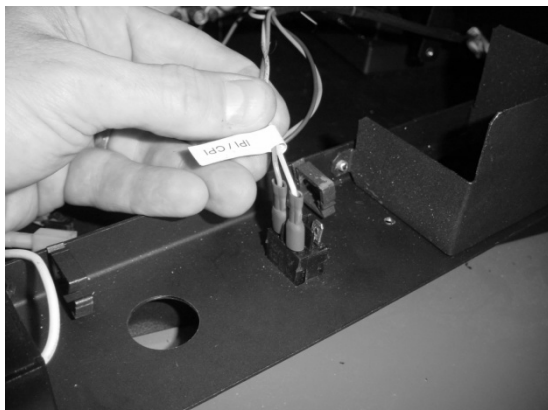
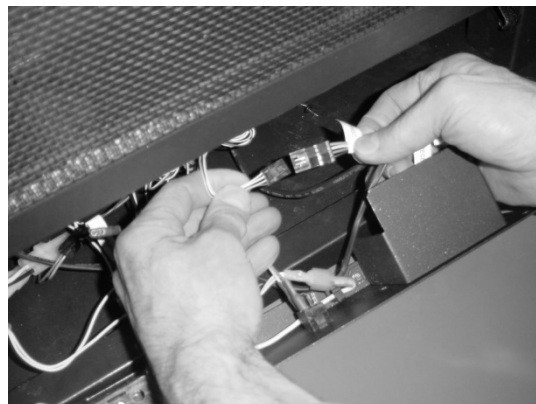

Figure 19
Figure 20
- 13 Attach the blue and white wires to the IPI/CPI switch (see Figure 19). Connect the wiring harness to the stepper motor (see Figure 20).